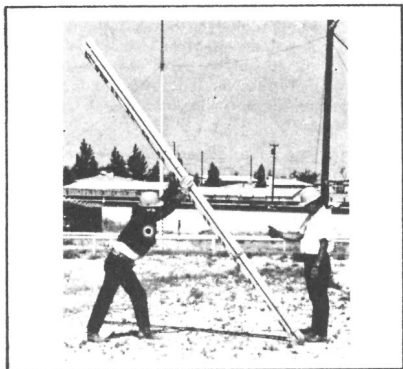

FIGURE 30.
17.16 A 32-foot extension ladder should be raised with the foot of the ladder held securely by one craftsman, while a second craftsman walks the ladder up to a vertical position similar to that shown in Figure 30. As an alternative, if the foot of the ladder can be placed against the base of a wall, one craftsman can raise the ladder as described in paragraph 17.15.